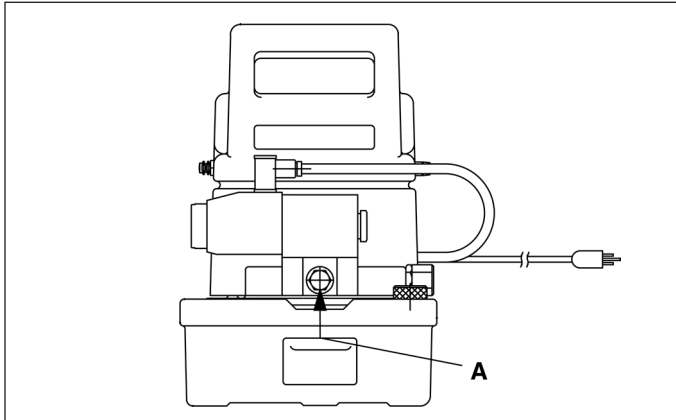

Figure 4
1. The pump-to-cylinder hose attaches directly to the output port (A) of the control valve (see Figure 4).
2. If a gauge is desired to monitor system pressure, a gauge adaptor must be installed into the valve outlet port (A). Install a 0-10,000 psi (700 Bar) pressure gauge into the gauge port of the gauge adaptor.